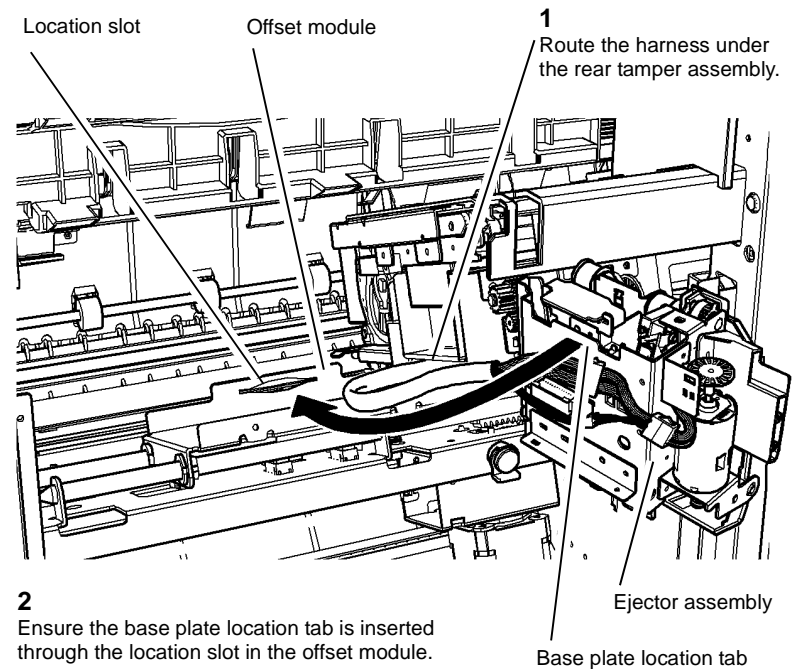

Figure 9 Ejector assembly
1. Figure 9. Check the ejector module is located correctly, refer to REP 11.6-171.